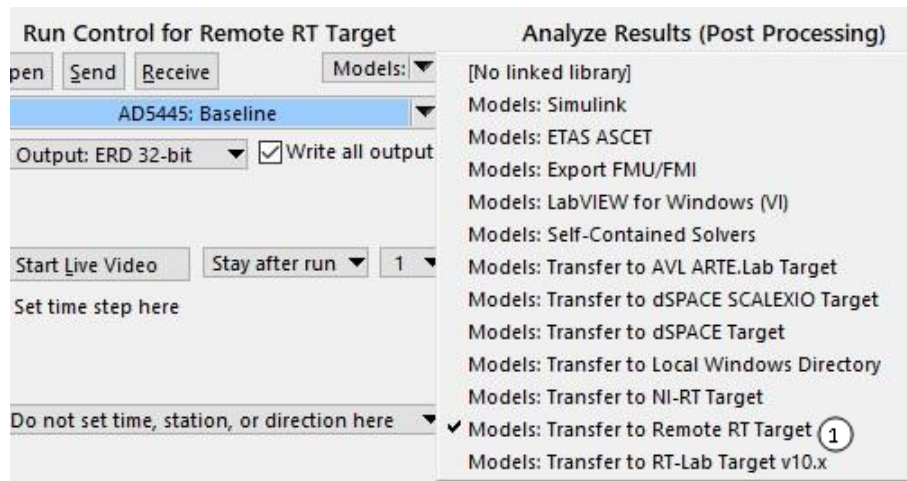

Figure 5. Drop-down Model List.
2. Under Run Control, click the **Models** drop-down list to confirm that the library is set to **Models: Transfer to Remote RT Target** ⁽¹⁾ (Figure 5).